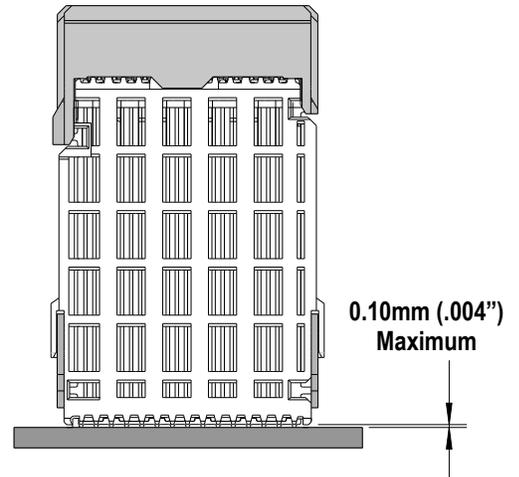

Figure 3
3. Using the application tool and an appropriate press, seat the vertical signal module until there is less than 0.10mm (.004 in) clearance between the bottom of the plastic housing and the surface of the PCB. See Figure 3.